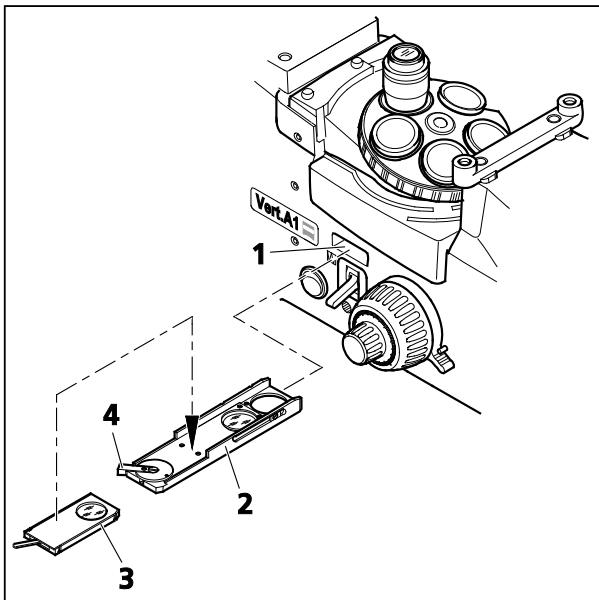

Fig. 4-13 Setting the Polarization
- Insert the analyzer slider (Fig. 4-13/2) (a P&C analyzer module in the reflector turret may be used as an alternative) into the slot (Fig. 4-13/1) under the nosepiece. The analyzer can be rotated 90 degrees.
- Use the analyzer turning lever (Fig. 4-13/4) to cross the vibration direction of the analyzer and polarizer (dark position).